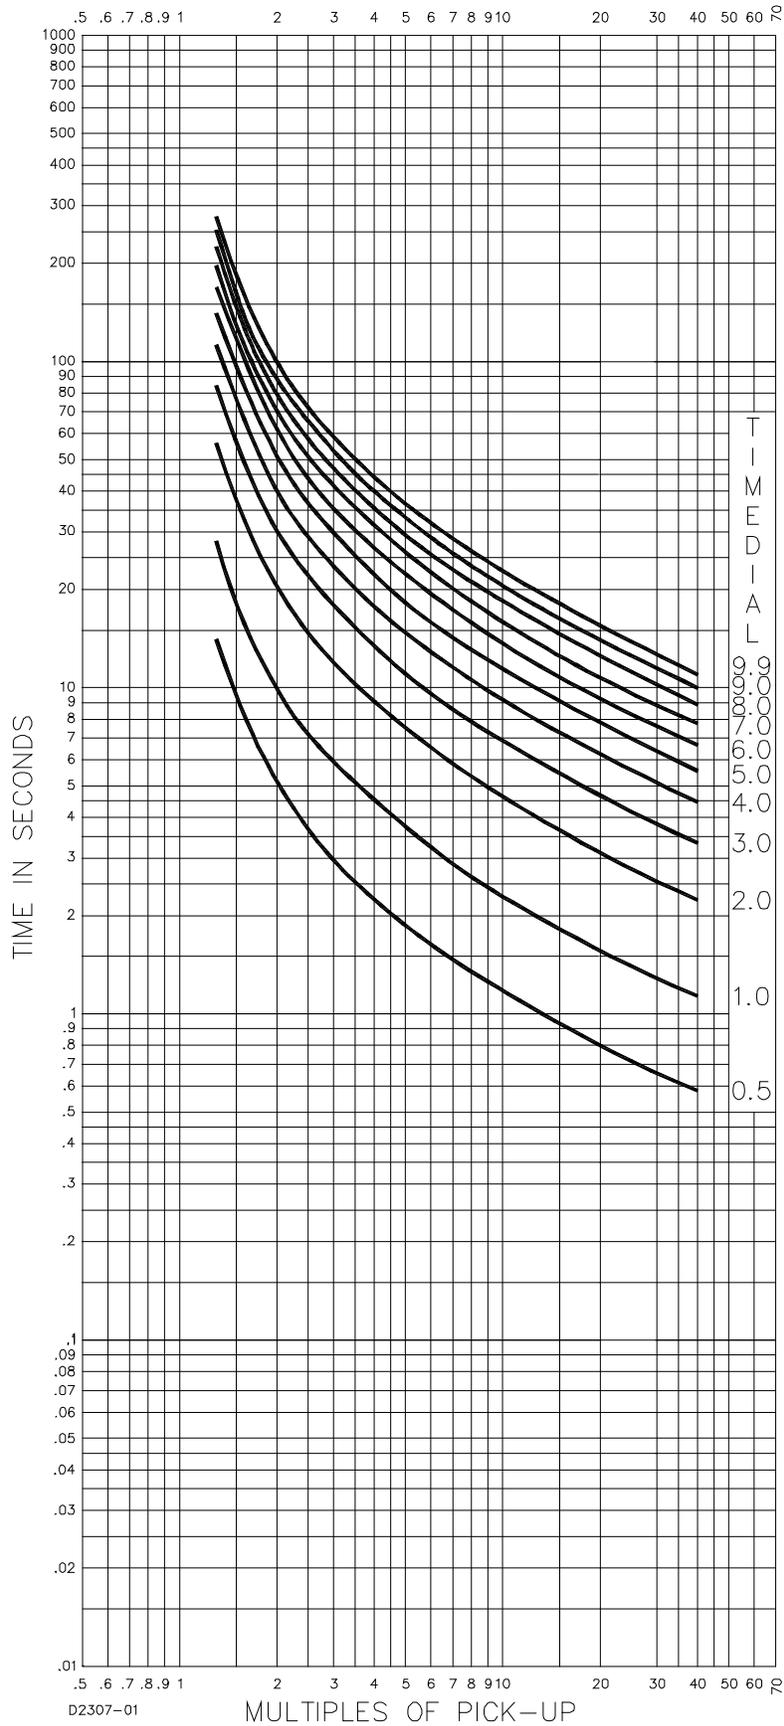

Figure 7-11. L2-Long Inverse Curve (SW3-3 On, Similar to GE IAC 66)
- L2-Long Inverse (SW3-3 ON, Similar to GE IAC 66): Figure 7-11